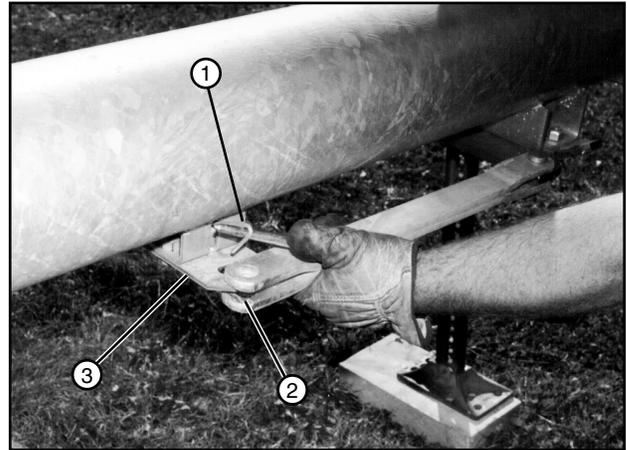

Figure 83-1 1. Carrier Spring 2. Tow Link Bar 3. Tow Link Carrier
1. Lift the carrier spring and release the tow link bar from the tow link carrier. See Figure 83-1.